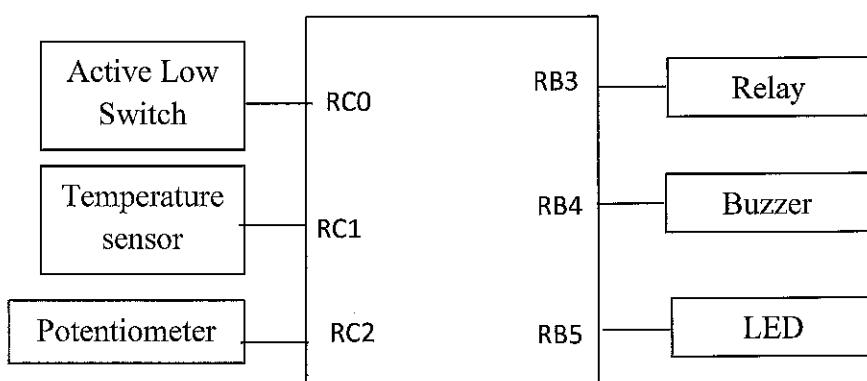

Figure A1 (c)/ Rajah A1(c)
- CLO1 c) Figure A1(c) show the connection between input devices and output devices with PIC microcontroller. Write the C language to configure the input/output port using bit addressable and byte addressable.